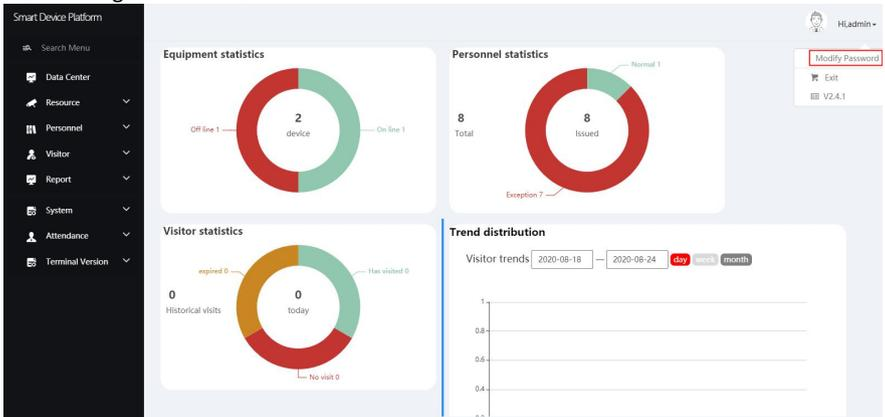

Figure 5-104
Step 1: In the smart device platform interface, click "👤 → Modify Password", as shown in Figure 5-104 below.